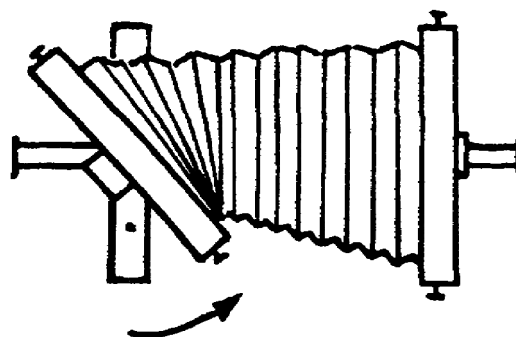

Figure 1-40. Rear Frame Swing.
(5) The rear frame has similar swinging and tilting provisions to permit correction for converging and diverging horizontal and vertical lines. The method of adjusting the rear frame is the same as described in 4a, b, c, d, e, and f above, except that the rear controls are used, (fig 1-40).